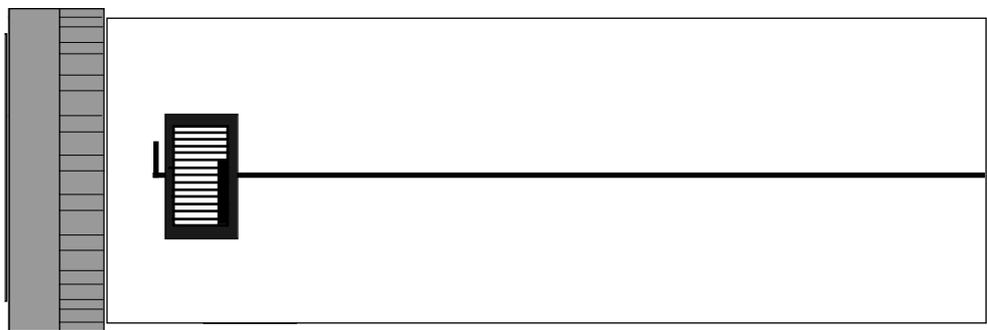

Fig. 1
- 8 • Mount the ScanView focus adjust target firmly on the drum so that the middle of the target is approximately over the horizontal line, (fig. 1).
- 15 • The maximum focus is now shown on the oscilloscope, (fig. 1).